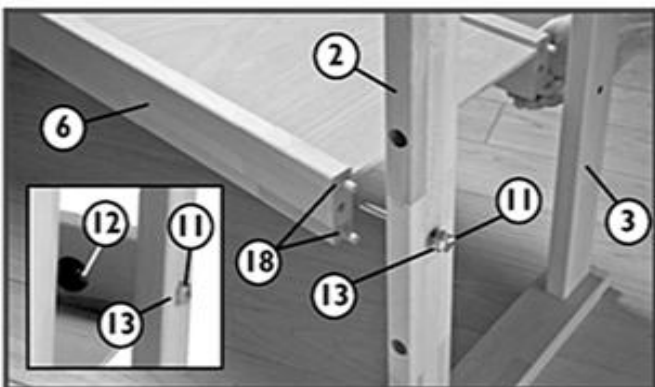

Fig. 3
3. Use two Dowels (18), an M-12 x 100 Hex Bolt (11), a Washer (13) and an M-12 Nut (12) to attach each Middle Stretcher (6) to the leg assembly (**Fig. 3**). The Middle Stretcher assembly can be mounted with the Center Shelf (7) on the top (as in **Fig. 3**) or bottom (as in **Fig. 3** inset photo). Make sure the bench dog holes in the legs are all facing forward. Repeat this process for the other leg assembly.